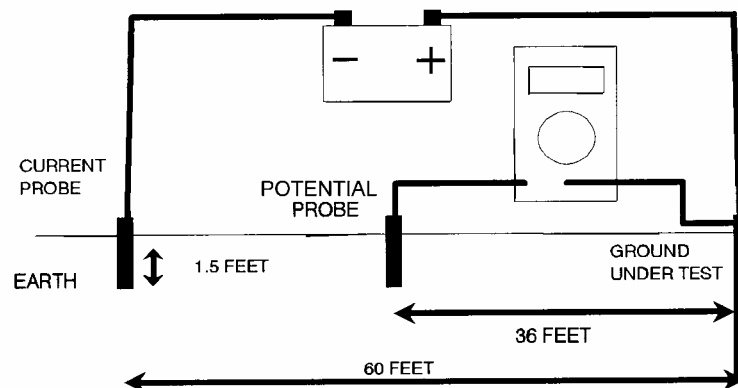

Figure 28 – Voltage measurement
- 2) Place the multimeter in series with the potential probe and the ground rod (see figure 28). Set the multimeter for a voltage reading.
- 3) Connect the battery in series with the current probe and the ground under test (see figure 28). Take a voltage reading between the potential probe and ground under test with the multimeter. Disconnect the battery.